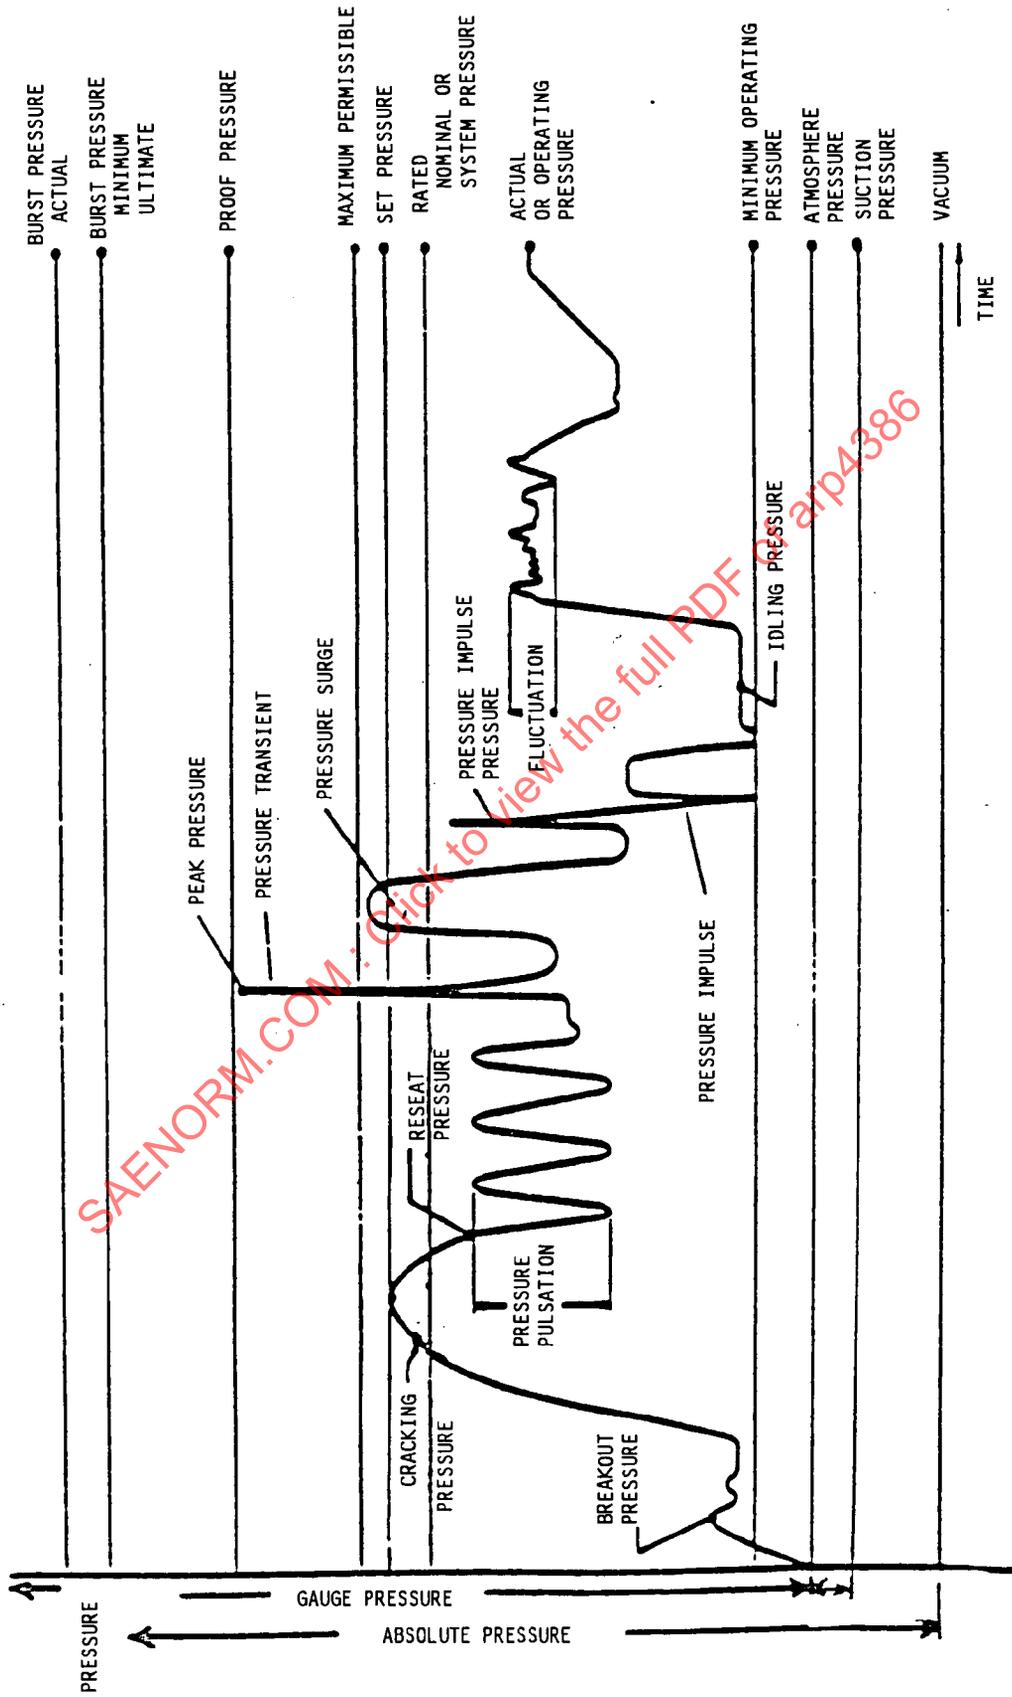

FIGURE 1 - Graphical Presentation of an Arbitrary Pressure Curve
**PRESSURE CURVE:** The pressure variation, expressed graphically in relation to another variable, for example, time. (See Figure 1.) Note the magnitude of the various pressure terms.